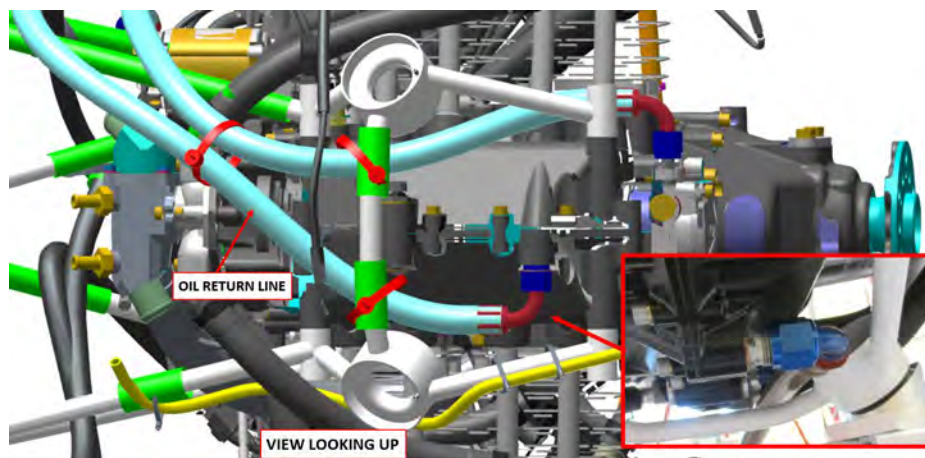

FIGURE 17-9
1. Verify the orientation on the oil return line fitting at the engine prior to installation. (See Figure 17-9.) The fitting should be roughly parallel with the engine oil pan.